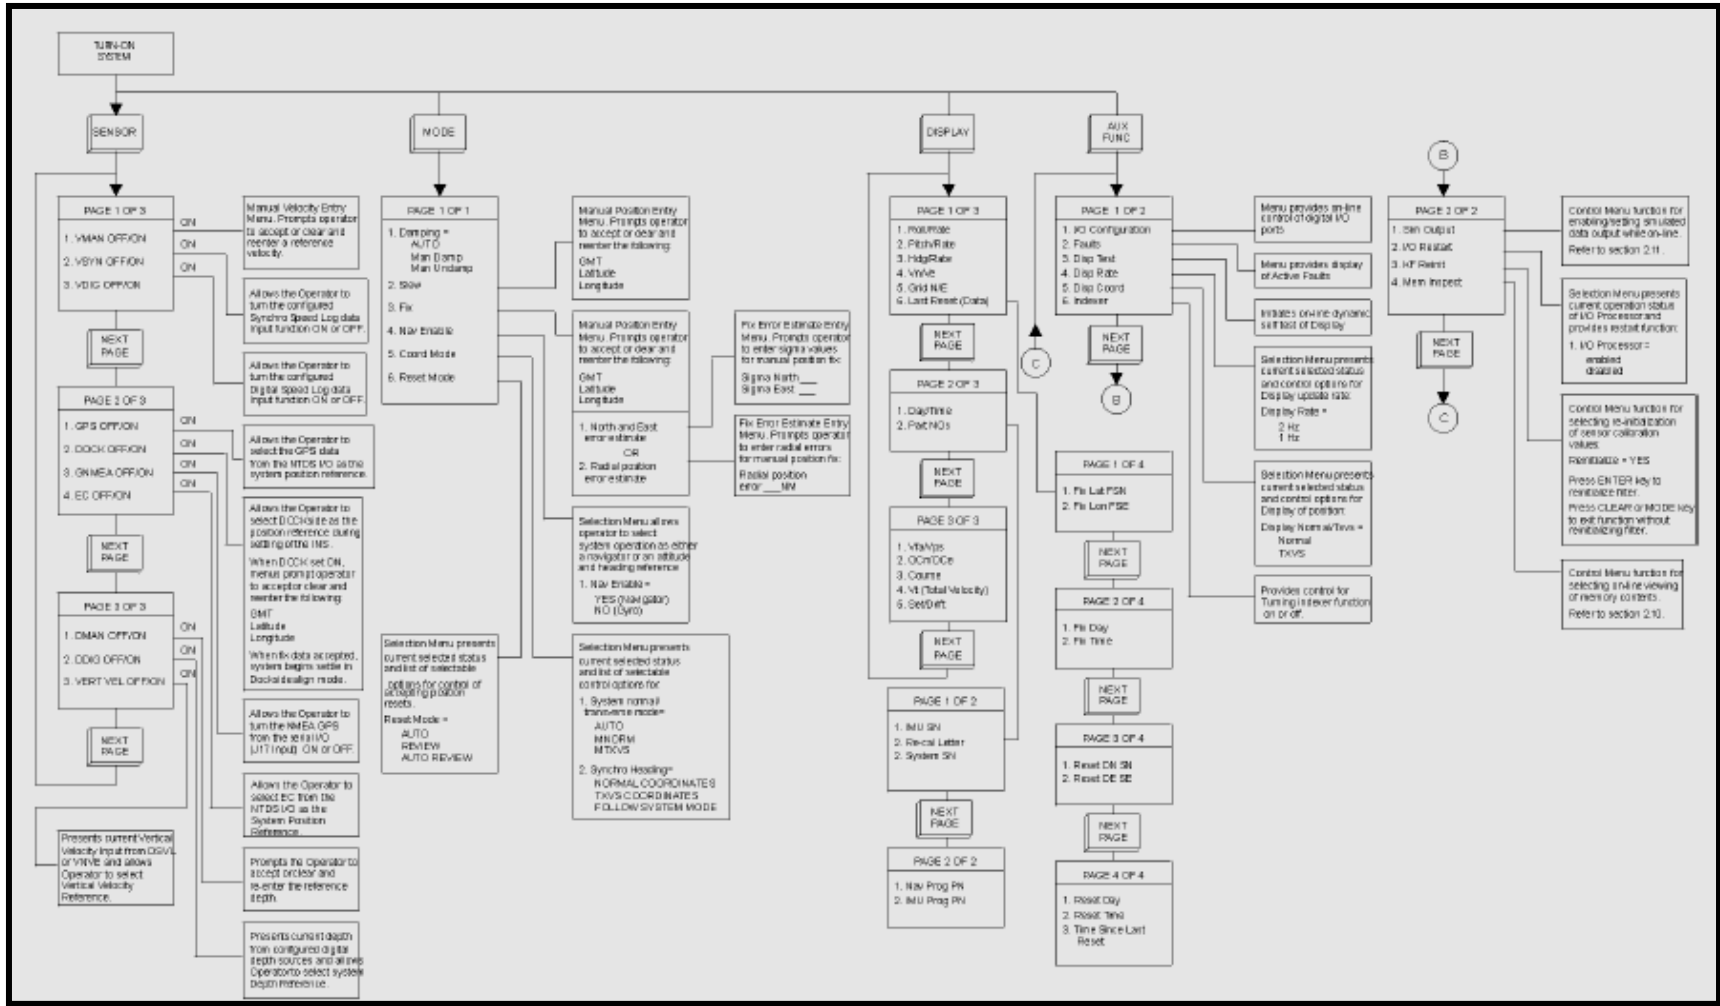

Figure 4-45.—Identifying Operation Menus and Data Entry.
**Operation Menus and Display Functions.** Table 4-9 lists the functions included in the four menus associated with operation and presents a brief description of the control and data functions associated with each. Figure 4-44 identifies the general menu layout and data presentation for the operations-related menus and it provides a listing of all mode and status indications that may be displayed on the top line of the Menu Display Panel. The top line indicates the system operating state, selected navigation aid, selected velocity reference, selected damping mode, selected coordinates (normal or transverse), and code for any detected fault. The next two lines display position, velocity, heading, day, and time. The last three lines present variable information and control functions, as determined by the selected menu and page. Figure 4-45 presents the full menu tree listing all functions available for display during normal operation.